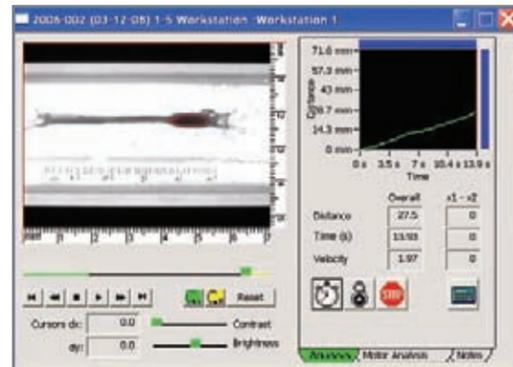

Figure 3
- The raw data can be examined to determine if the motility rate was consistent (a linear graph), or changes over time (a curved graph) (figure 3)